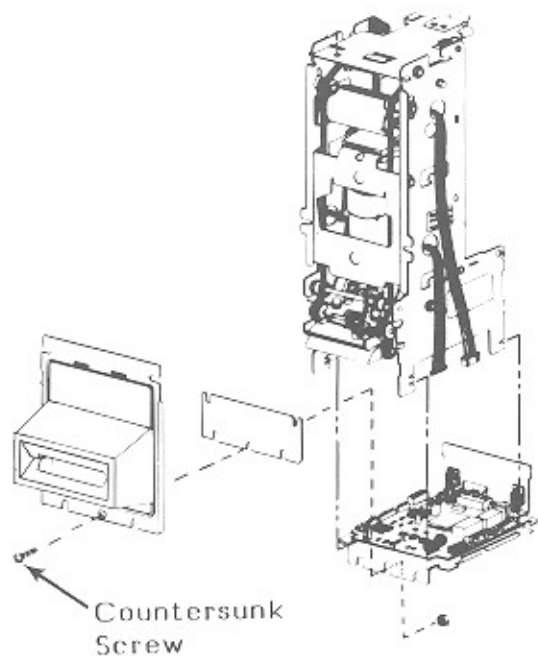

Figure 4-1. Removing The Bill Inlet
1. Remove the countersunk screw that holds the inlet on the front of the transport (see figure 4-1).